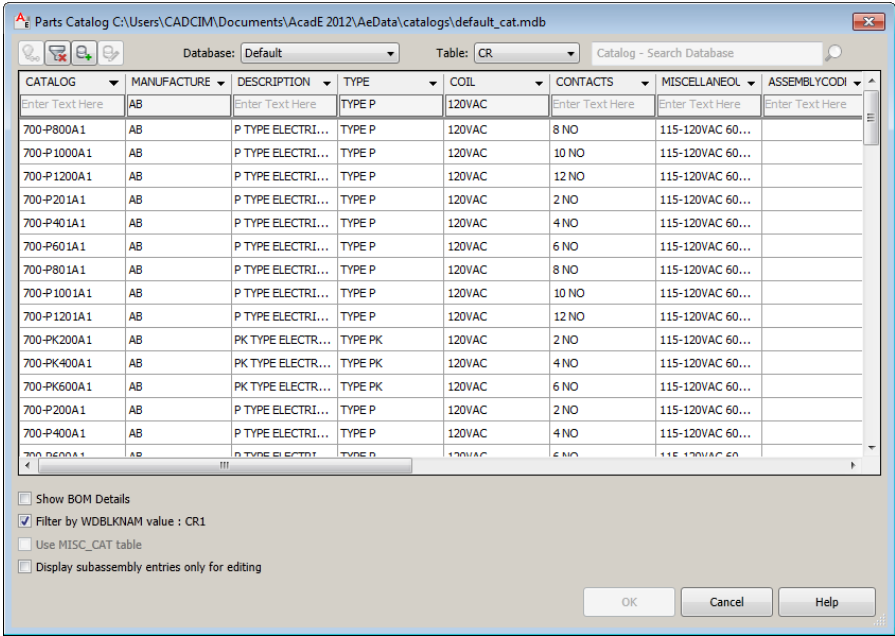

Figure 6-57 The Parts Catalog dialog box
- Choose the **Catalog Lookup** button; the **Parts Catalog** dialog box is displayed, as shown in Figure 6-57.